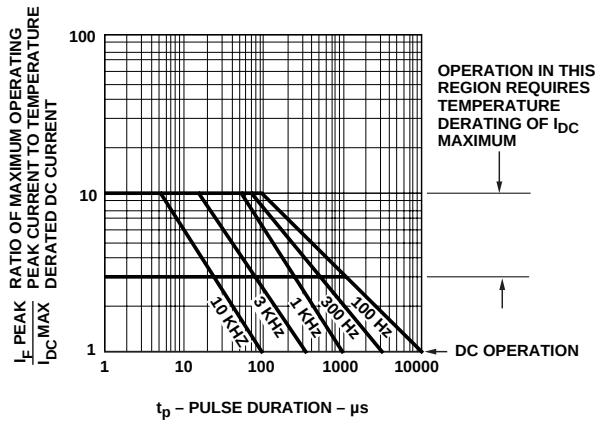

Figure 4. Maximum Tolerable Peak Current vs. Pulse Duration – HER.
2. See Figure 4 to establish pulsed conditions.